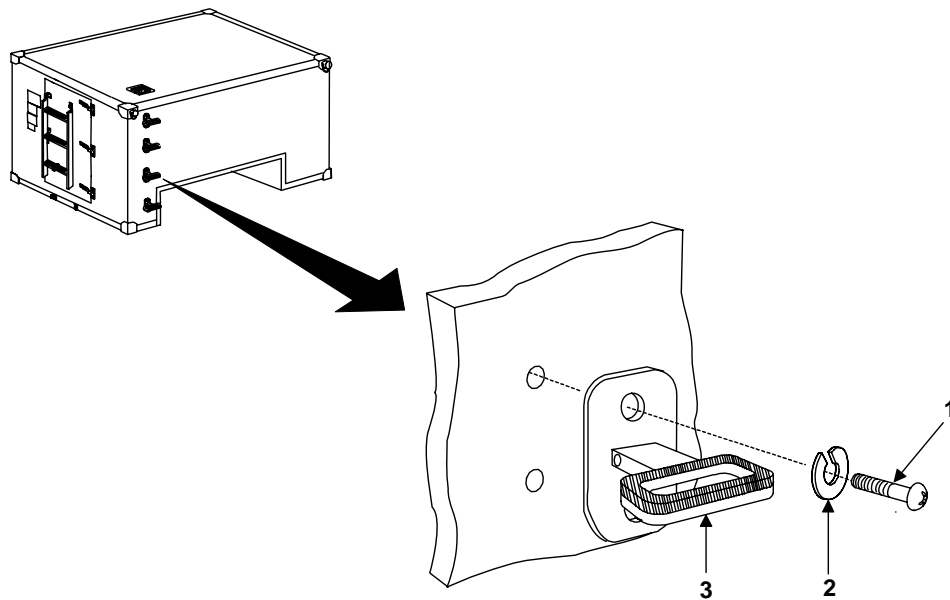

Figure 1. Shelter Step Assembly.
Remove two screws (figure 1, item 1) and lock washers (figure 1, item 2) securing roof access steps (figure 1, item 3) to shelter.
1. Locate roof access step (figure 1, item 3) on shelter.
2. Install two screws (figure 1, item 1) and two lock washers (figure 1, item 2) to secure roof access step (figure 1, item 3) to shelter wall.